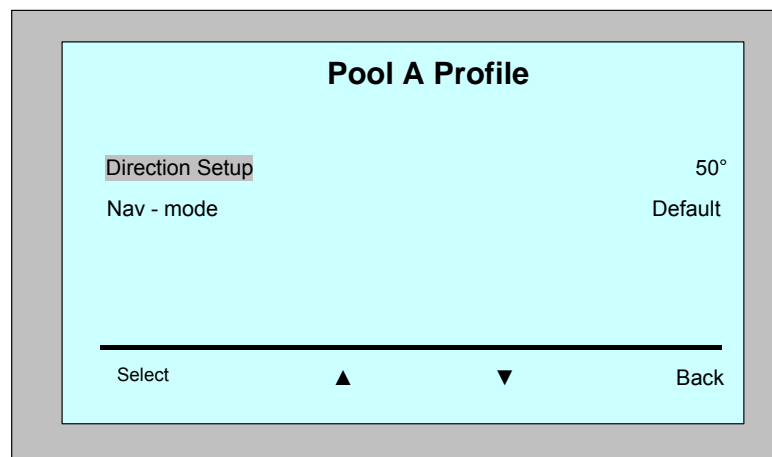

Figure 13: Second pool profile screen
8. After setting the Scanning Method, from the Pool Profile screen, scroll down to the next screen to "Direction Setup" (Figure 13).
The *Nav-mode* is set at an optimum default setting as indicated in Figure 13. The default setting is the recommended mode for use in most pools. In rare instances, the robot might be sensitive to surrounding conditions that interfere with its guidance system. If the robot does not move as expected then change the *Nav-mode* setting.